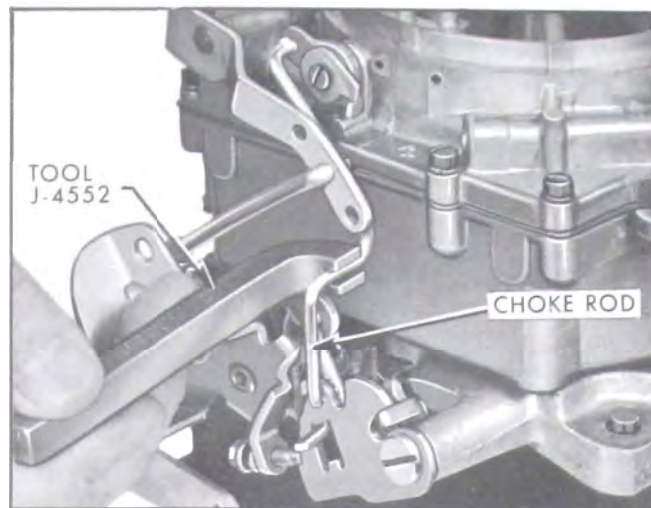

Figure 3-53—Adjusting Fast Idle Cam
2. If choke valve clearance is not correct, bend choke rod as required to obtain this clearance, using Tool J-4552. See Figure 3-53.